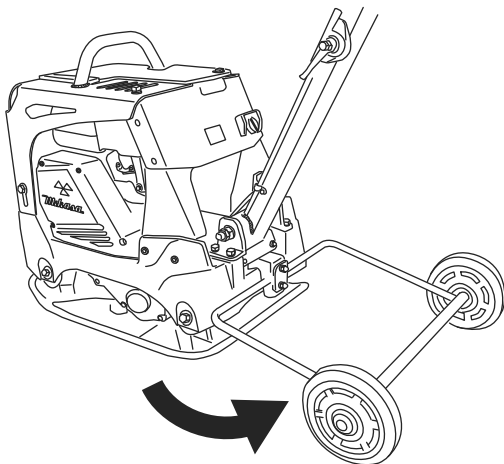

Fig.33
- 2 Remove the shaft of cart from bottom of vibrating plate, and take the plate down completely. (Fig. 33)